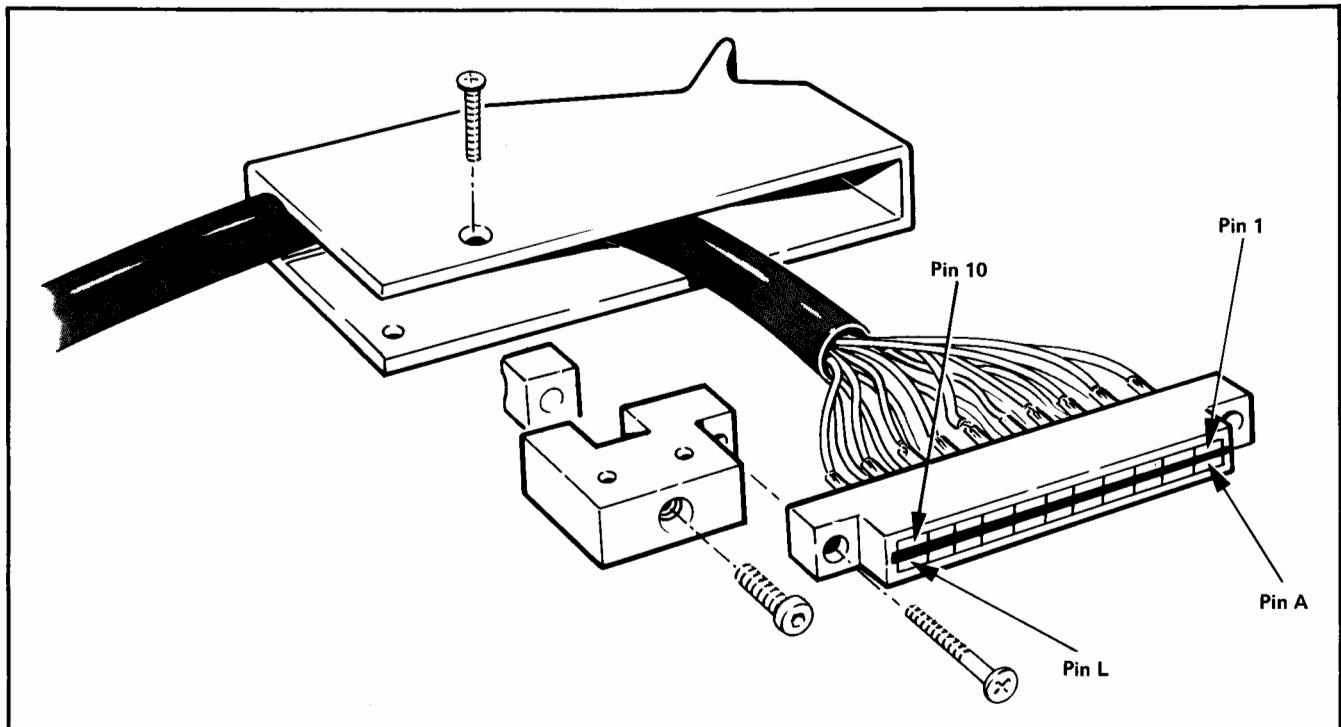

Figure G1-4 Edge Connector & Hood
5. Mate the edge connector with the Hood as shown in Figure G1-4.